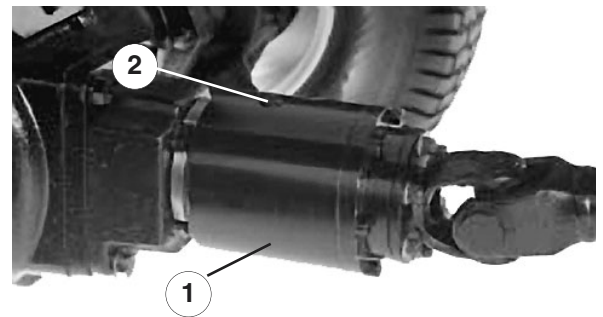

Figure 8
2. Rotate the clutch (Fig 8) so the check plug (shown in the 12:00 o'clock position) is positioned at 4:00 o'clock.